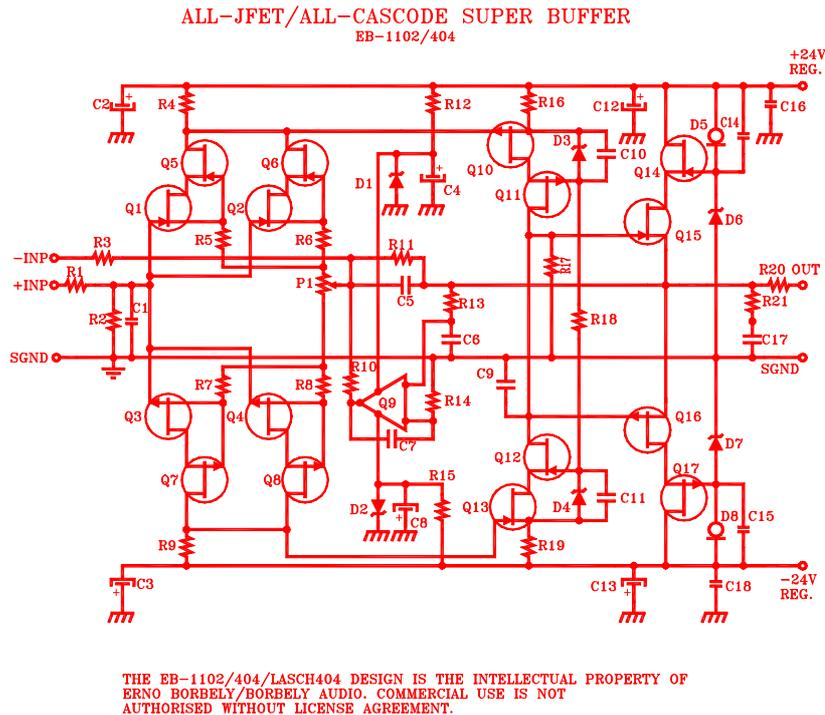

Fig. 1. The ALL-JFET “SUPER BUFFER SB1 ”.
The ALL-JFET “SUPER BUFFER SB1” (1) is a very high quality low-noise, wide-band amplifier. The PCB is 80x145mm and contains two completely independent buffers. The buffers can be supplied from two independent power supplies. The schematic is shown in fig. 1. The SUPER BUFFER SB1 has been developed from the SUPER BUFFER and shares the topology with the professional microphone preamp EB-1102/212.